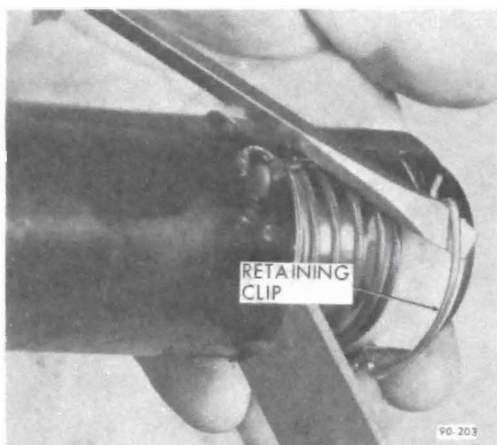

Figure 90-119 Removing Bearing Adapter Clip
3. Remove bearing adapter clip. See Figure 90-119.